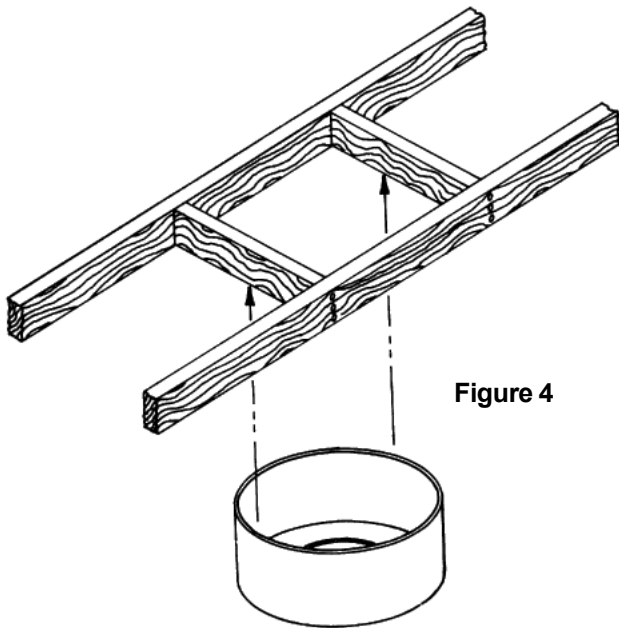

Figure 4
- Completely frame in (on all four sides) a properly sized square opening. Select opening size so that outside wall of Bucket (AB), 3-inch through 8-inch, will contact framing at four sides. See Figure 4.